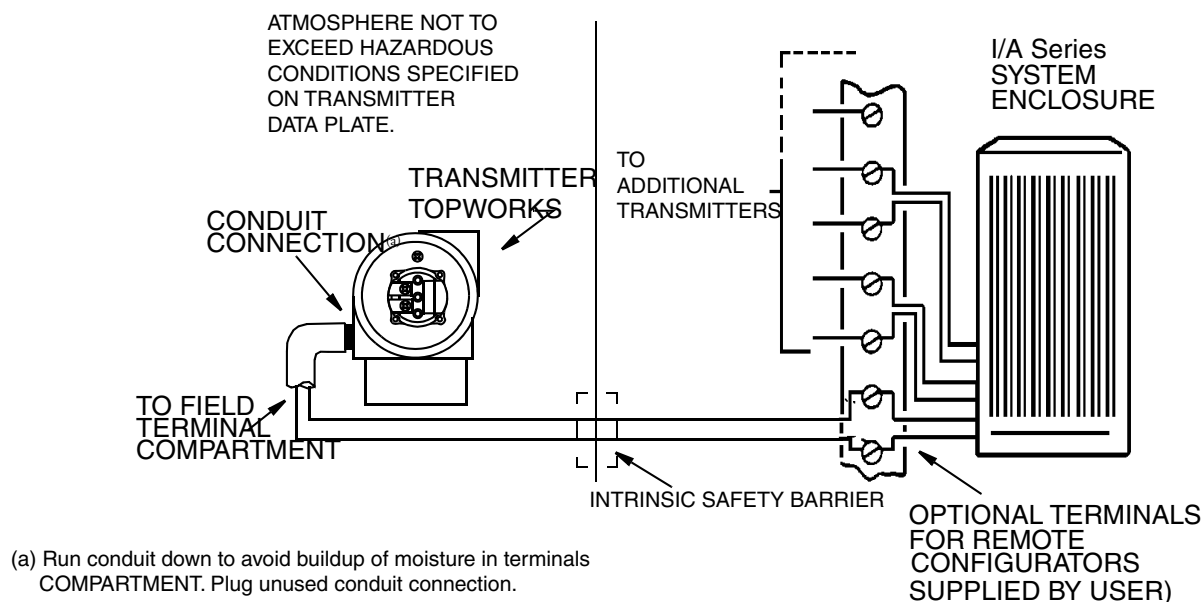

Figure 26. Typical Transmitter Wiring to an I/A Series System
2. Run signal wires (0.50 mm² or 20 AWG, typical) through one of the transmitter conduit connections as shown in Figure 26. Use twisted pair to protect the digital output and/or remote communications from electrical noise. Screened (shielded) cable may be required in some locations.